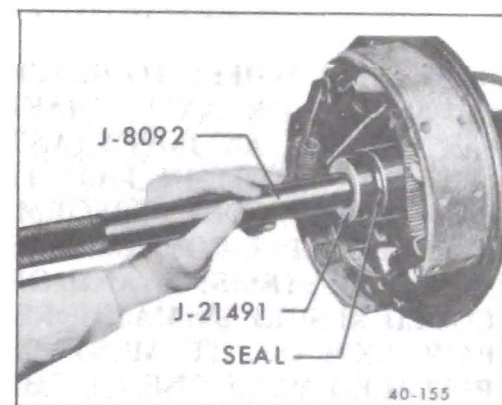

Figure 40-183 - Axle Shaft Bearing and Seal Installer
1. Using the axle shaft bearing and seal installer J-21491 install the bearing and then the seal. See Figure 40-183.